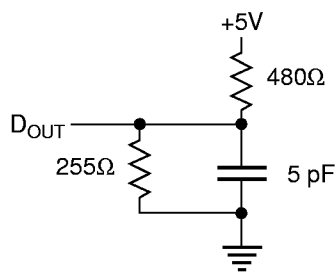

Figure 2. Output Load Equivalent
1. The parameter is tested with $C_L = 5$ pF as shown in Figure 2. Transition is measured ± 200 mV from steady state voltage.